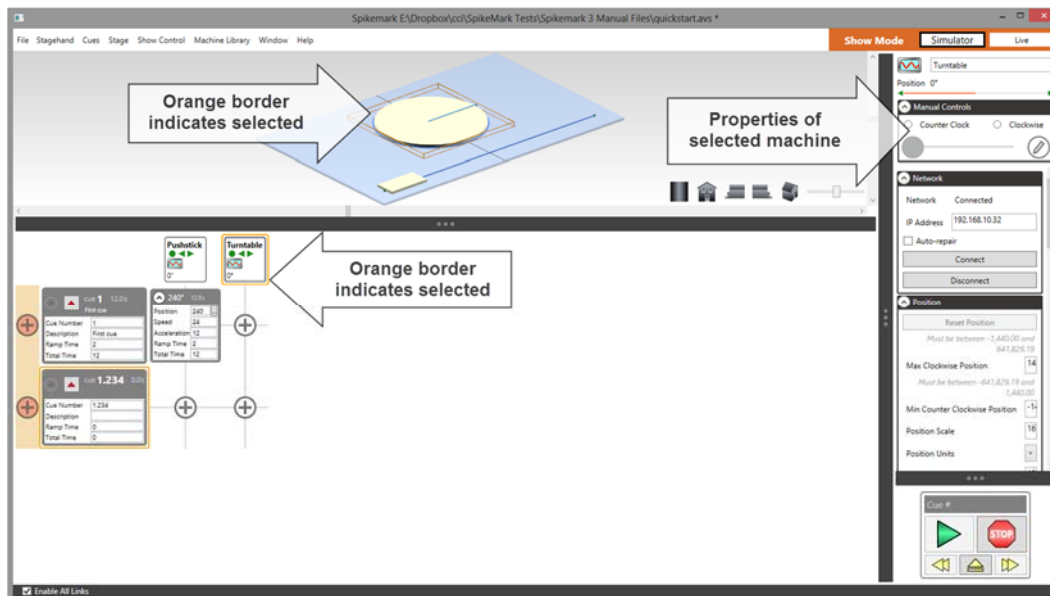

Figure 40
- When a machine is selected, it will have an orange border around it in the **Cue Grid** and the **Stage Model Viewer**. Once selected, that machine's properties will be displayed in the **Stagehand Editor** on the right side of the screen (Figure 40).